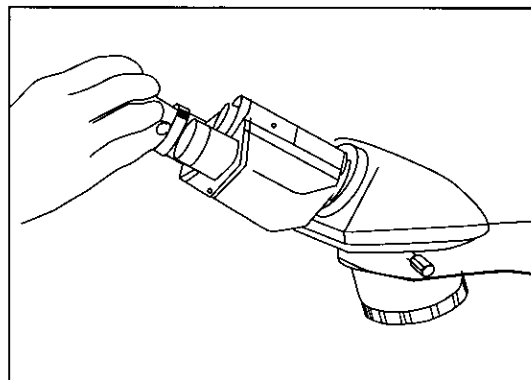

Figure 3
- Install the two eyepieces (MA817) by sliding them into the head. **The eyepieces for MX5000 Series are a DIN and JIS standard 30.0mm diameter.** (Fig.3)